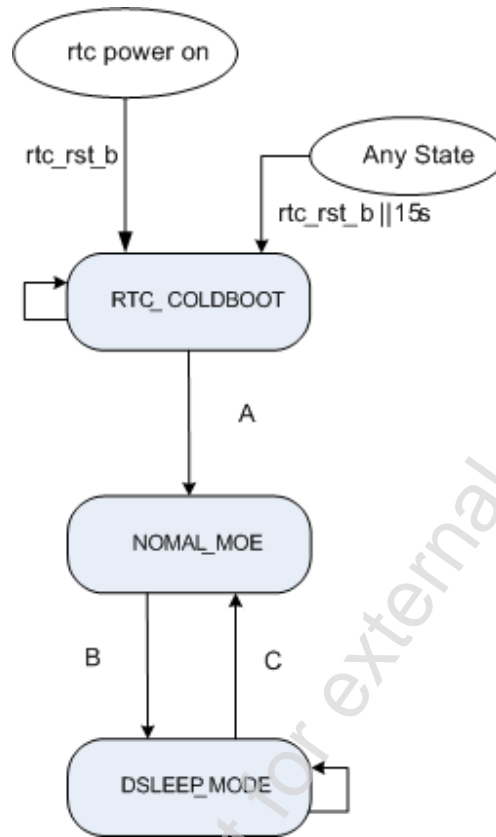

Figure 5: SiRFatlasV Function Mode Switch Diagram
- In DSLEEP_MODE, if PWRC detect `x_on_key_b` has a negative edge and keeps for 320ms after de-bounce or `x_ext_on` has positive edge and keeps for 320ms after de-bounce or RTC alarm, and there is no low battery event, then the PWRC will switch to NORMAL_MODE state. (Point C in Figure 5.)